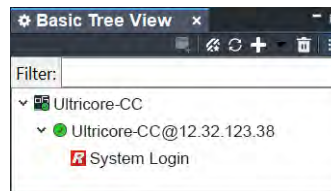

Figure 7.3 Example of the System Login Sub-node
- ★ When you log out, the Basic Tree View returns to the System Login tree view. **Figure 7.3**